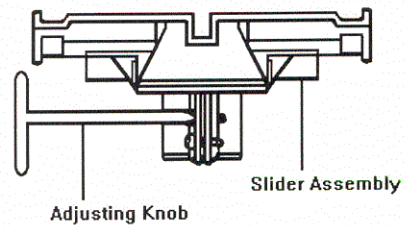

Figure K2: Bucket Seat Base
2. Locate the knob below the seat and loosen by turning counterclockwise and exit the seat. The seat will not allow a person to rotate the seat while being seated. See Figure K2.
1. Locate the knob below the seat and loosen by turning counterclockwise and exit the seat. The seat will not allow a person to rotate the seat while being seated. See Figure K2.